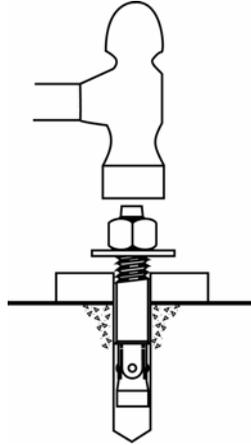

Figure 7
- E. Assemble the washers and nuts onto the anchor bolts. Thread the nuts onto the anchor bolts where the tops of the nuts are just above the top of the bolts, figure 7. Using a hammer,